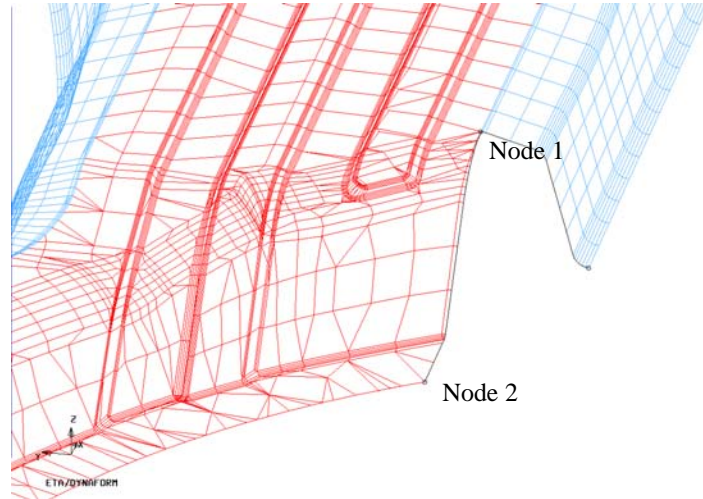

Figure 6.3.19 Select two nodes on part boundary
3. Select two nodes on the part boundary as shown in Figure 6.3.19. The program will prompt the user to conform if the defined corner is correct. Click **YES** to accept the defined corner region.